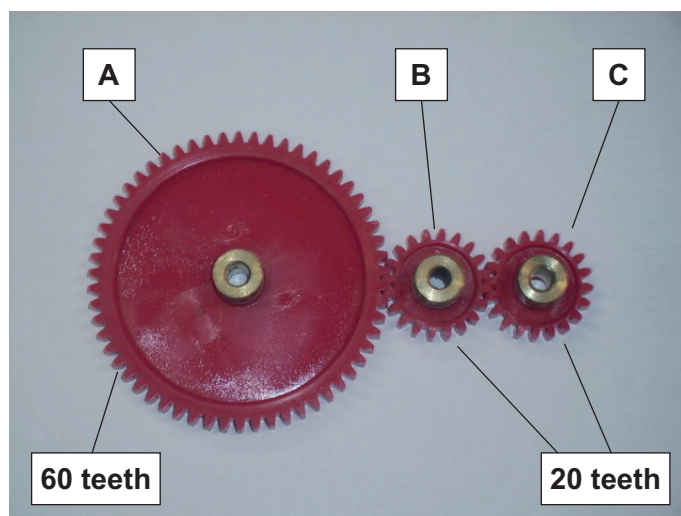

Fig. 12
- 10 Fig. 12 shows a mechanical system that makes use of three gear wheels labelled **A**, **B** and **C**. The driver gear is gear wheel **C**.
- (a) What is the mechanical system in Fig. 12 called?
- (d) Calculate how many turns gear **C** needs to make to produce **one** turn of gear **A** in **Fig. 12**.